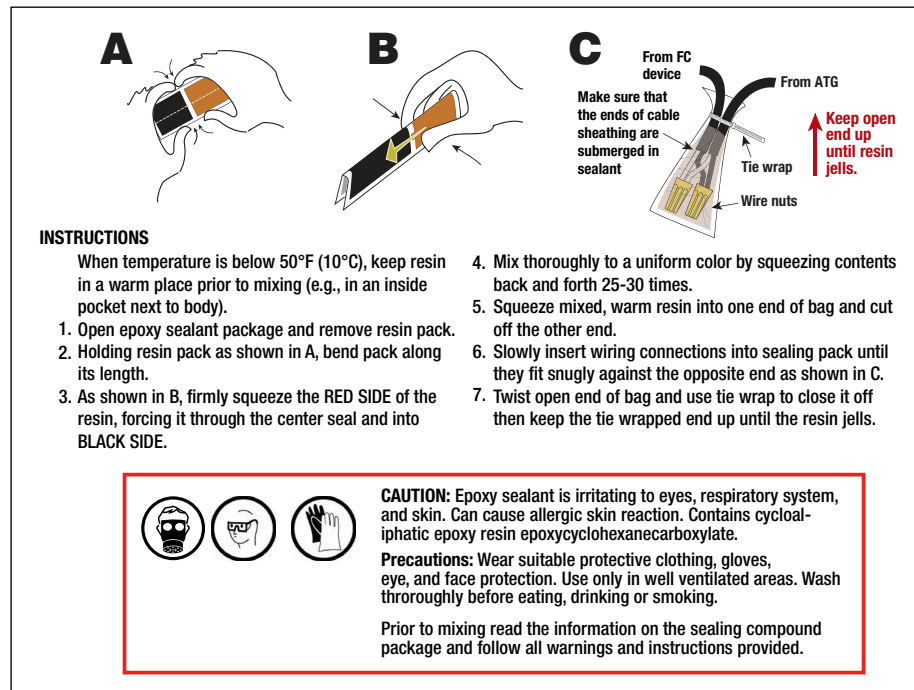

Figure 24. Epoxy Sealing Mag Probe and Pressure Sensor Field Connections
NOTICE In sites where hydrostatic testing is conducted, or general dampness is expected within the sump, splices may be contained within epoxy seal packs to eliminate moisture within the connections (see Figure 24).
5. Seal each cable's connections in an epoxy sealant pack following the instructions in Figure 24. Place the two sealed wiring packs into the I.S. junction box. Replace and tighten the junction box cover.
6. Seal each cable's connections in an epoxy sealant pack following the instructions in Figure 24. Place the two sealed wiring packs into the I.S. junction box. Replace and tighten the junction box cover.